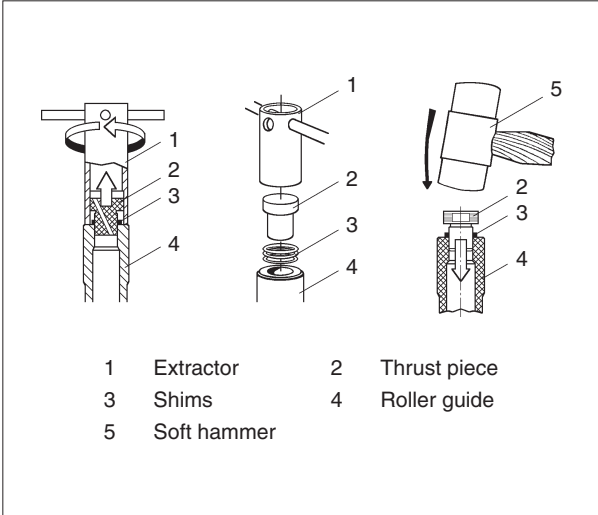

Fig 5 Remounting of thrust piece.
After replacement of shims the thrust piece is re-mounted, see fig 5, in the roller guide (4) with a soft hammer (5).